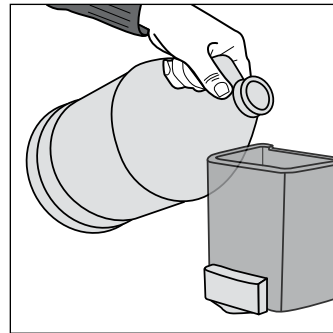

Figure 4
- Open dispenser. Flush tank and pump mechanism with warm water to remove residue and contaminants. Refill with new soap and replace lid. (See Figure 4)